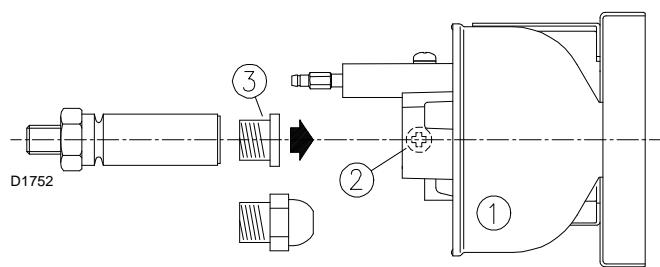

Fig. 12
- Loosen the screws 2)(Fig. 12) and remove the flameholder unit 1), remove the plastic plugs 3) and assemble the nozzles: do not use any sealing products such as gaskets, sealing compound, or tape.